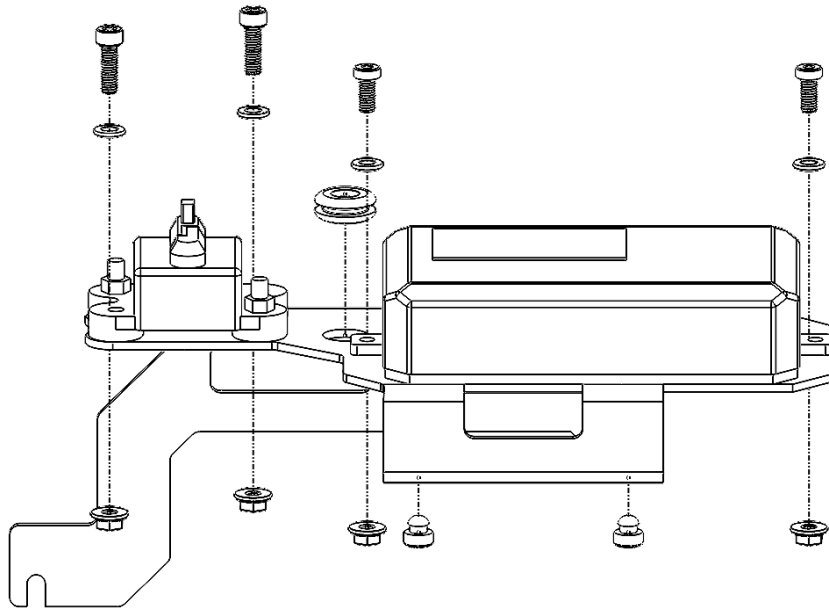

Figure 1
4. Install the Auxbeam Switch Assembly (fuse panel) onto the engine bracket as per figure 1 below. Ensure to line up the wiring slots on the bottom side of the Auxbeam unit, with those on the bracket. Fasten down the Switch Assembly using provided M6x14mm socket head cap screws, washer, and flange nut. A